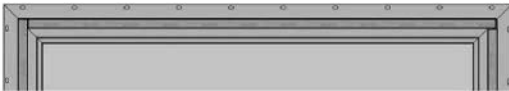

FIG. 3
- D) Wrap jamb extension around the window as shown. (Fig. 3)